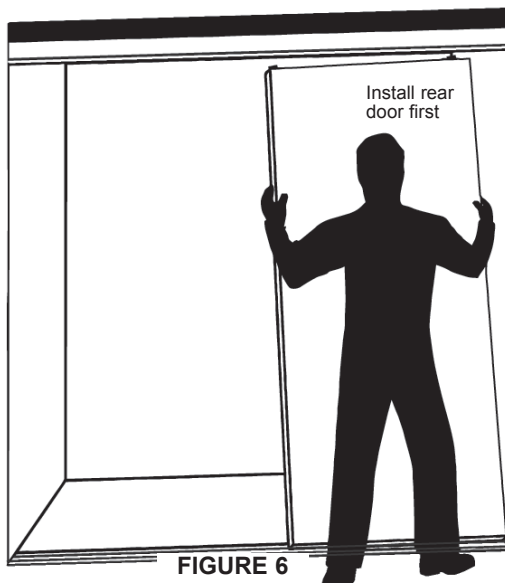

FIGURE 6
**NOTE: Install rear door first.** Insert top of door into the top guide channel first, then swing bottom of door over bottom track and lower rollers into rear groove. Install front door in the same manner (Figure 6).